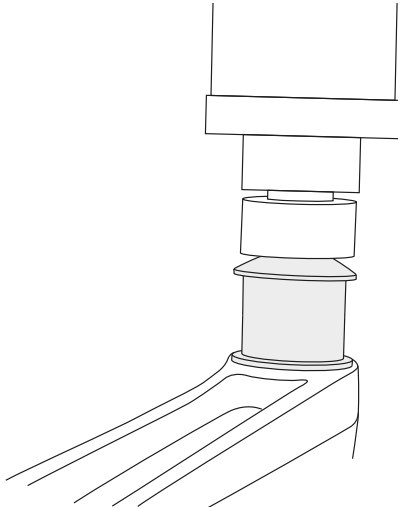

Figure 104: Assemble Pivot Bush Installer
4. Place the pivot bush installer tool centred on the pivot bush with the lubricated leading face towards the beam. Refer Figure 104.